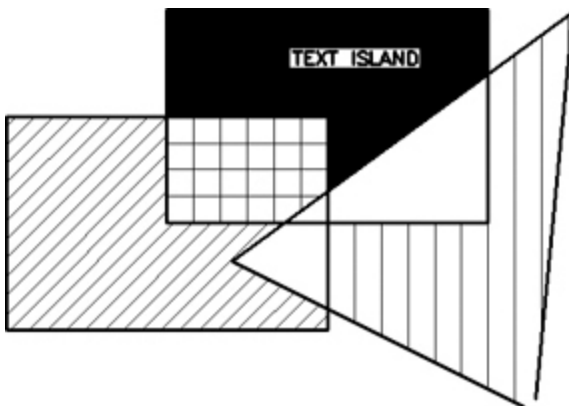

Figure 10-19
- 6** Save your drawing. Your drawing should look like Figure 10-19.